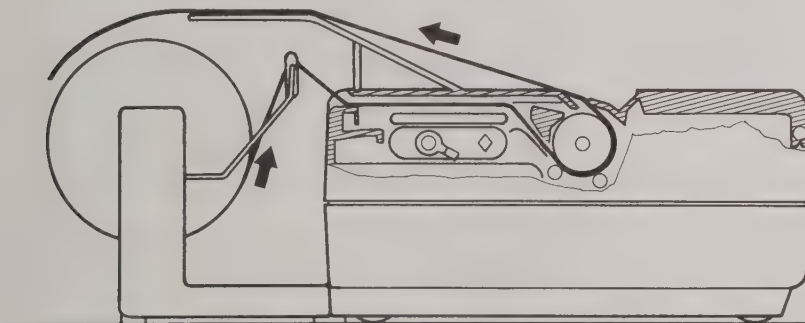

Fig. 5/12c
- Press paper pressure arm (6, Fig. 5/5) to the rear.